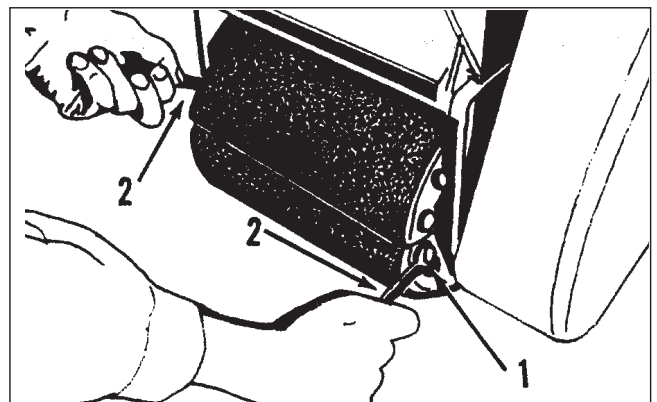

Figure 4
- a. The end wrenches are given with the machine. Put a wrench around the nut at each end of the drum (1). See figure 4.
- c. Turn the wrenches the opposite rotation until the abrasive is tight against the drum (2). See figure 4.